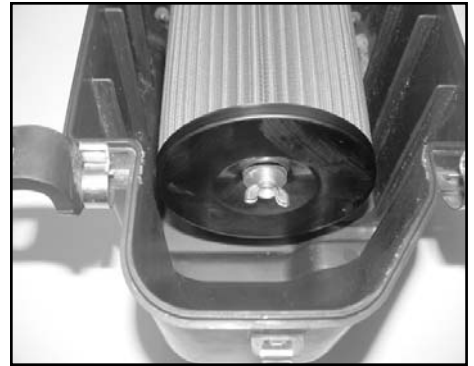

Fig. 3
5. Tighten wing bolt until air filter is snug in the air box. (Fig. 3)